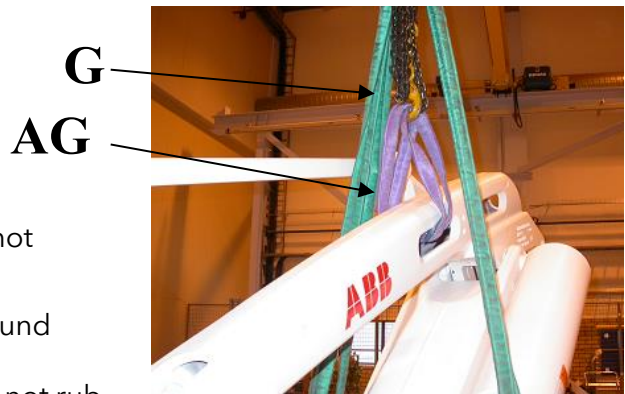

Figure 26. Securing the upper arm, IRB 660.
1. Hook on the lifting accessory's eye (E). Ensure the lifting hook's safety latch is locked.
2. Fasten 3 swivelling lifting eyes (M16) (T) into the lower holes on the stand intended for fork lift truck brackets. One on the side with the balancing cylinder (front mount) and two on the other side. Tighten the lifting eyes (T) hard against the surface, ensure that good contact is made.
3. The hooks (S) are fitted in the lifting eyes (T), the safety latch must be locked. Make sure that the 4 round lifting slings (R) are not twisted. The robot should be positioned so the round lifting sling closest to the balancing cylinder clears this.
4. The robot's upper arm must always be secured with a 1 ton lifting sling (AG), see figure 26. The sling is guided through the front hole in the robot's upper arm.
5. Fit the lifting sling (73) in the lifting hook as shown in figure 26. Ensure the lifting hook's safety latch is locked.